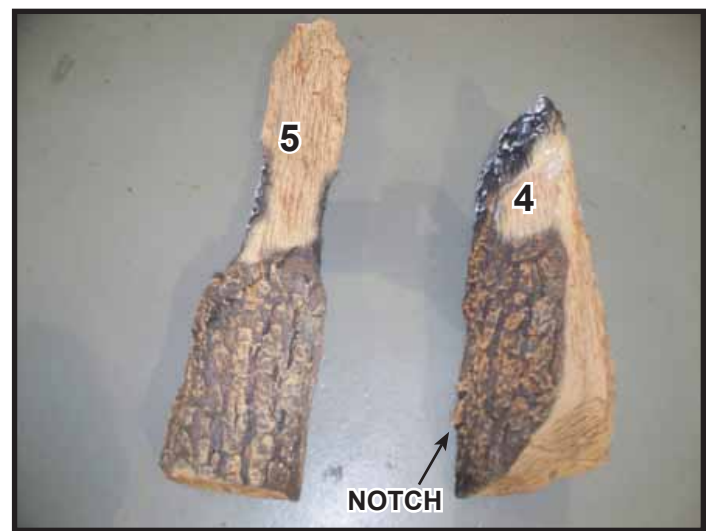
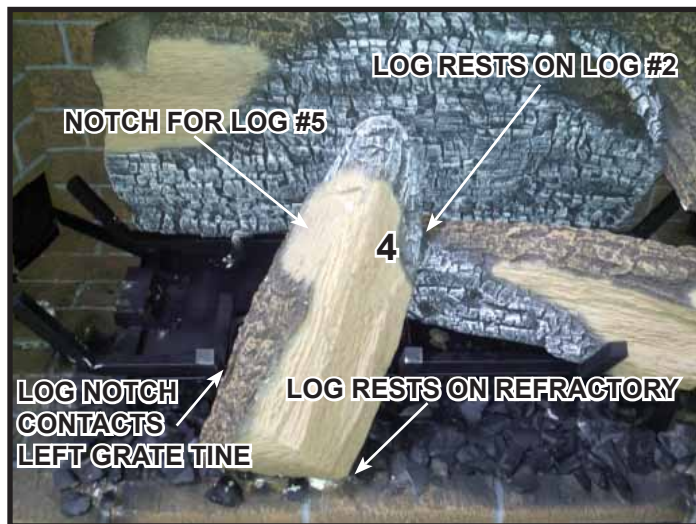
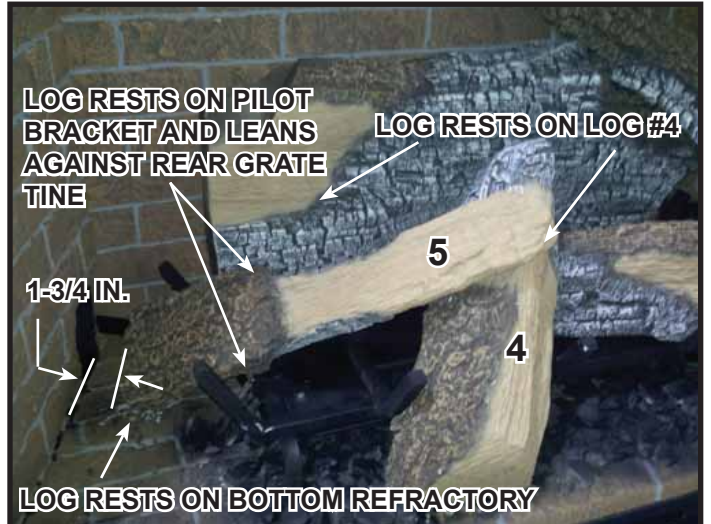

Figure 7.
Figure 8.
Figure 9.
**Log #4 (2282-704):** See Figure 7. Place Log #4 between the left and center grate tines. The base of Log #4 should rest on the refractory. Notch on log will rest on the front left grate tine and the top of log will rest in notch on Log #2. See Figure 8.
**Log #5 (2281-705):** Locate flat area on Log #4 that will be used to position Log #5. See Figure 8. Place Log #5 into appliance as shown in Figure 9. The left side of the log will rest on bottom refractory and pilot bracket. It will also lean against rear grate tine. The right side of Log #5 will rest in notch on Log #4. There will be a space approximately 1-3/4 inches from the end of the log to the left side refractory.